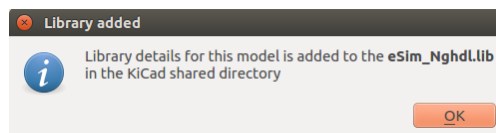

Figure 9.4: Uploading of digital model
2. Now browse and locate the VHDL file to upload. Select the VHDL file and click on the Upload button. This process will create Ngspice model and corresponding component drawing inside the KiCad library (eSim_Nghdl.lib) of the VHDL block to be used in mixed-signal simulations. An acknowledgement message will appear upon successful processing of the VHDL code as shown in Fig. 9.4.